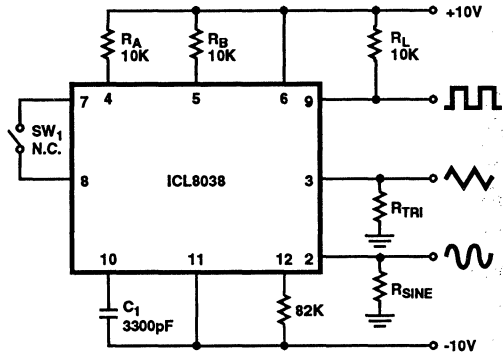

FIGURE 1.
- Figure 1, pins 7 and 8 connected, $V_{SUPPLY} = \pm 10V$. See Typical Curves for T.C. vs V_{SUPPLY} .